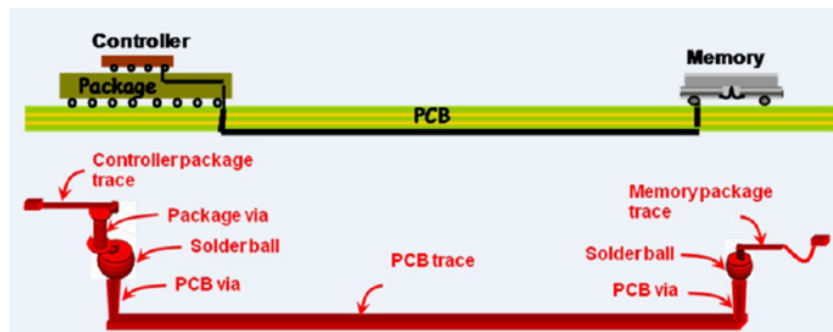

Figure 2: A typical controller and memory interface, forming a channel; consider the controller as transmitter and memory as receiver
3. **Channel Design and Modeling:** The channel connects chip through package to board as shown in Figure 2. Design a complete channel that includes wire bonding, package trace, package via, solder bump, PCB via, and PCB trace. Define appropriate ports and generate S-parameters using HFSS. The PCB trace(s) should be at least 20 inches in length.